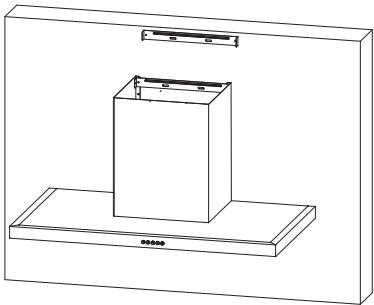

Fig.8
- Fix chimney installation plate. See Fig.8.